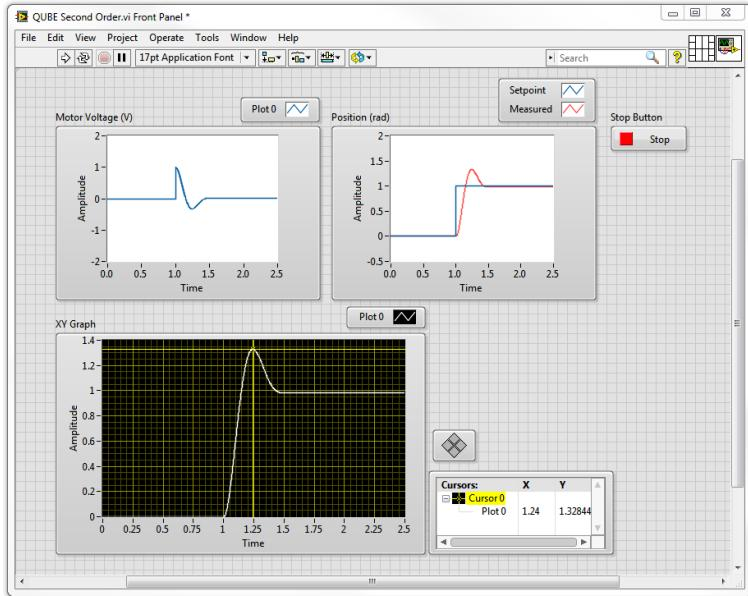

Figure 6.4: Unity feedback QUBE-Servo step response
- Run the VI. The scopes should look similar to Figure 6.4.